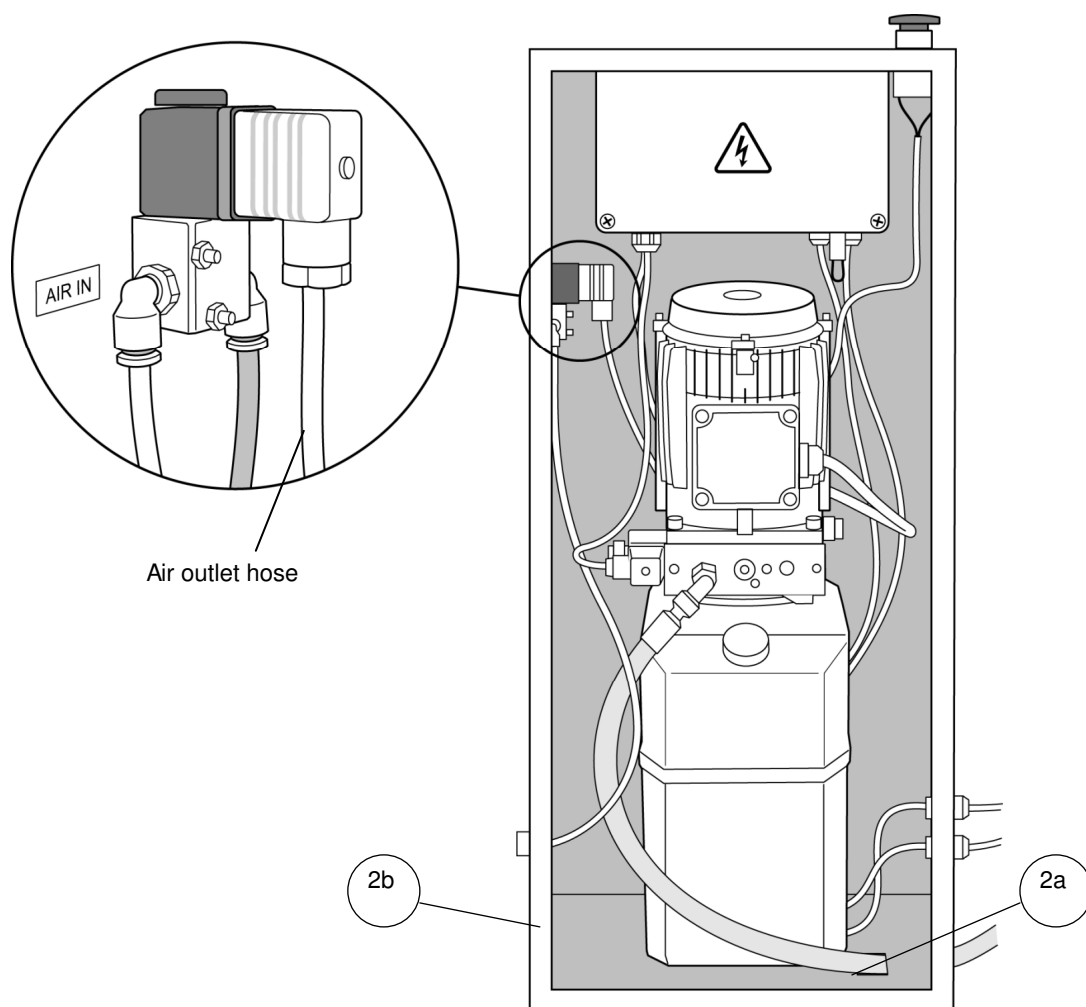

Figure 3.4 Connection of the pneumatic air outlet
- 1 **a: Insert the hydraulic hose through the hole at the bottom of the Power Unit cabinet, see Figure 3.4.**
- 1** Connect the air inlet hose to the air inlet connector on the left hand side of the Power Unit cabinet, see Figure 3.4.